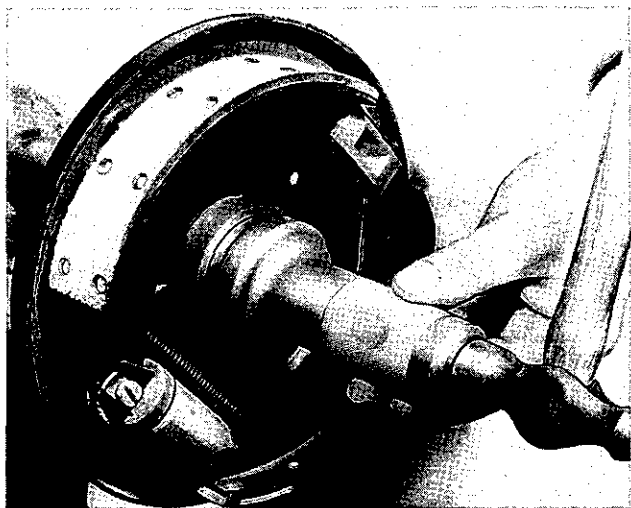

Fig. 4. Fitting new Oil Seal in Axle Casing, Tool No. M.29.
8. The oil seals can now be driven out of their respective housings and be replaced as shown in Fig. 4, if the necessity for the renewal arises.